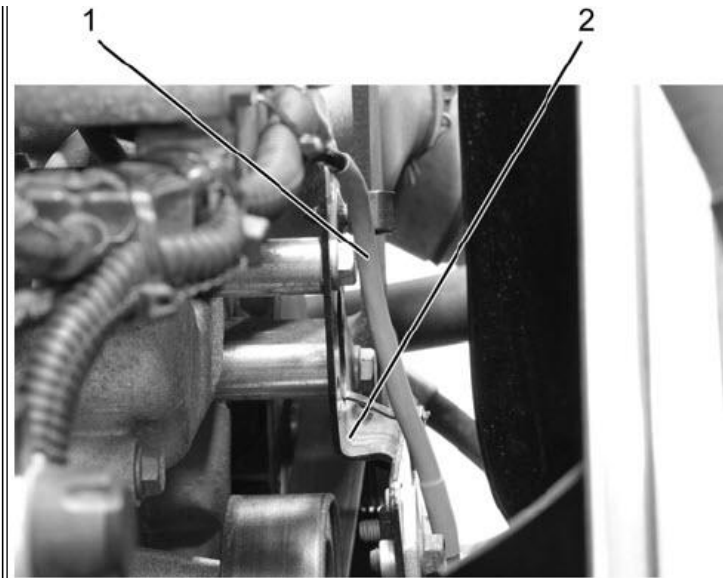

Figure 17 - Fan Clutch Harness with Heat Shrink
12. Install self-sealing dual wall heat shrink on damaged or repaired area of harness (*Figure 17, Item 1*).